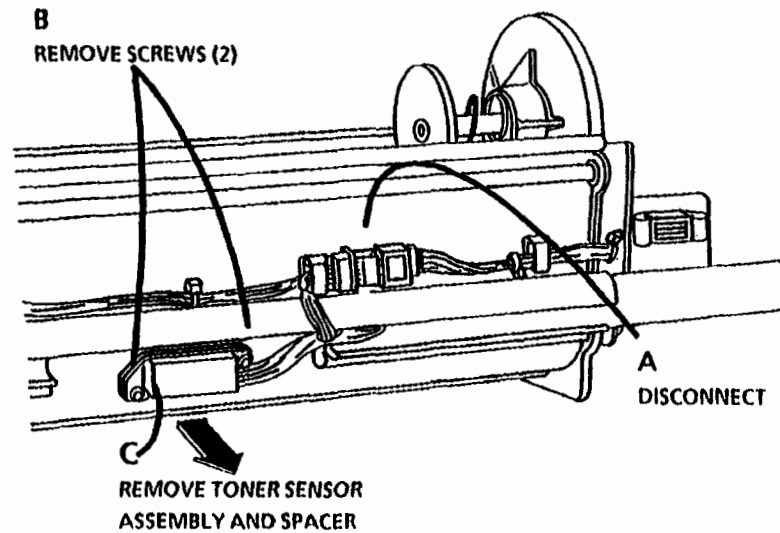

Figure 1. Remove the Toner Sensor
3. (Figure 1): Prepare to remove the Toner Home Sensor.